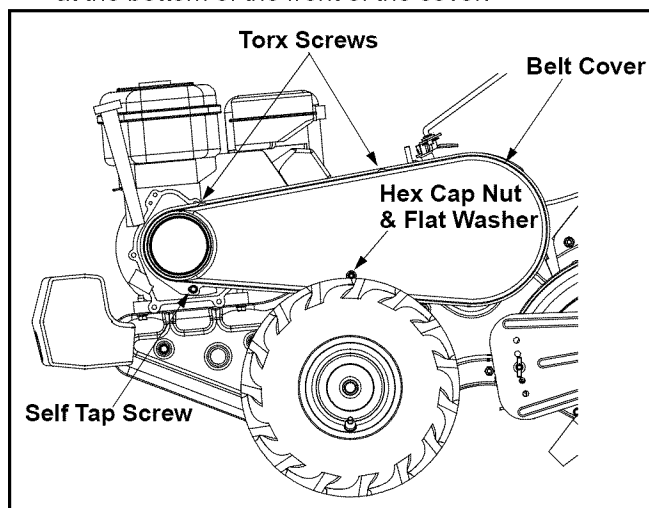

Figure 8
- Remove the belt cover from the left side of the tiller by removing two torx screws from the top of the belt cover. See Figure 8.